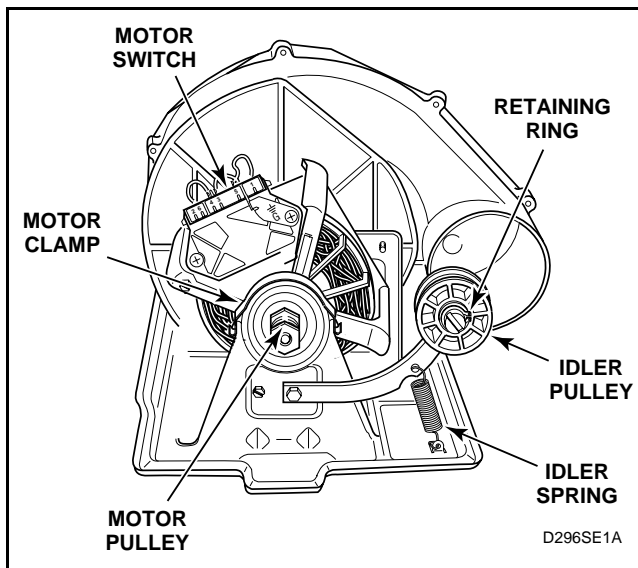

Figure 28
See Figure 28 for motor and idler pulley removal.
- (2.) Pry two motor clamps off motor mounting bracket with screwdriver, then lift motor out of mounting bracket. See Figure 28.